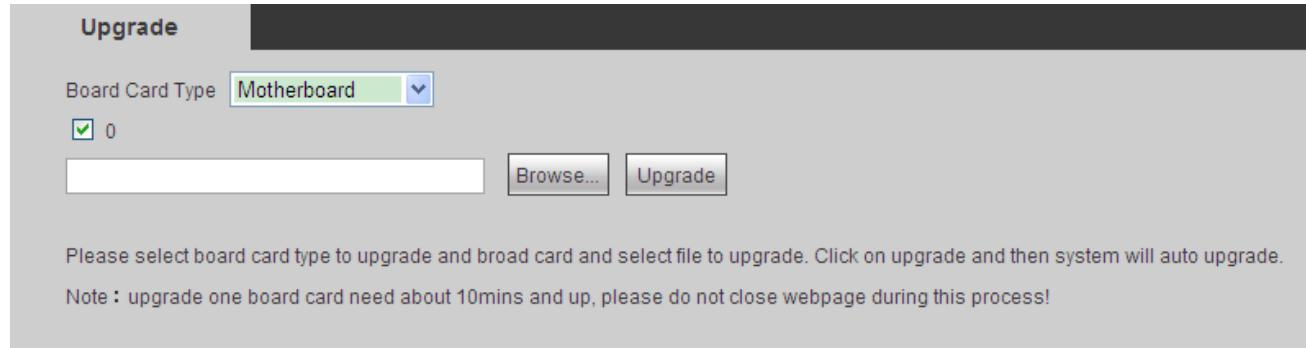

Figure 3- 33
Step 1. Select settings>system config>upgrade. System displays Figure 3- 33.